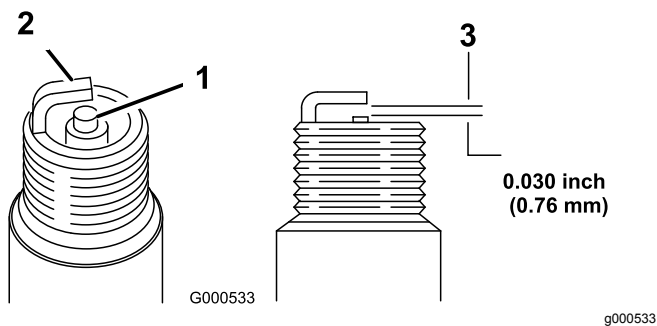

Figure 34
5. Set the gap on the plug to 0.76 mm (0.030 inch); refer to Figure 34.